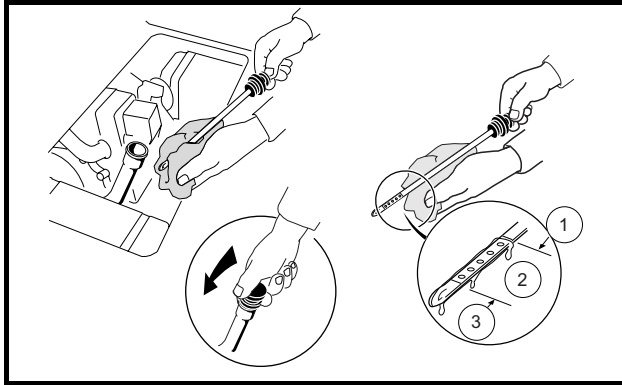

Figure 10-4 Engine Oil Level Check
1. Remove the oil level dipstick from the oil filler tube and wipe oil from dipstick (**Figure 10-4, Page 10-7**). See following **CAUTION**.